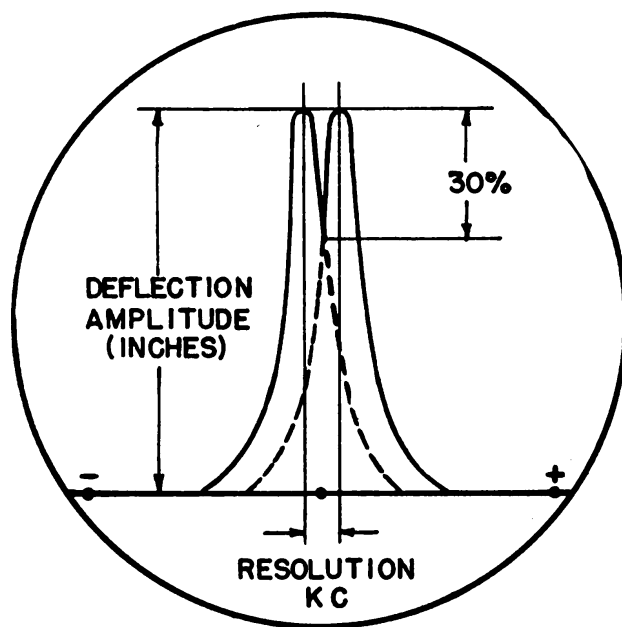

Figure 5. Resolution.
h. Resolution. Resolution (fig. 5) is the visual equivalent of selectivity and is represented by the frequency difference between two signals of equal amplitude which intersect 30 percent down from their peak amplitude. It is said that the resolution is *better* as this frequency difference decreases.